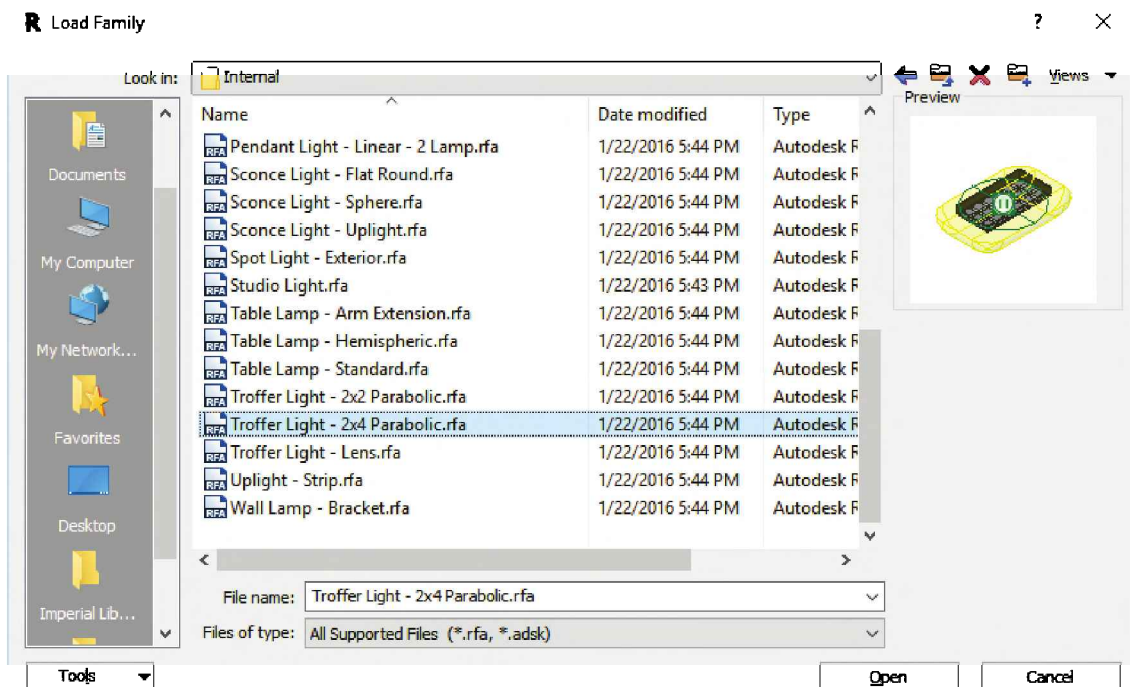

FIGURE 7-3.2 Load family
3. Double-click the *Lighting\Architectural\Internal* folder, and then double-click **Troffer Light- 2x4 Parabolic.rfa** (Figure 7-3.2).